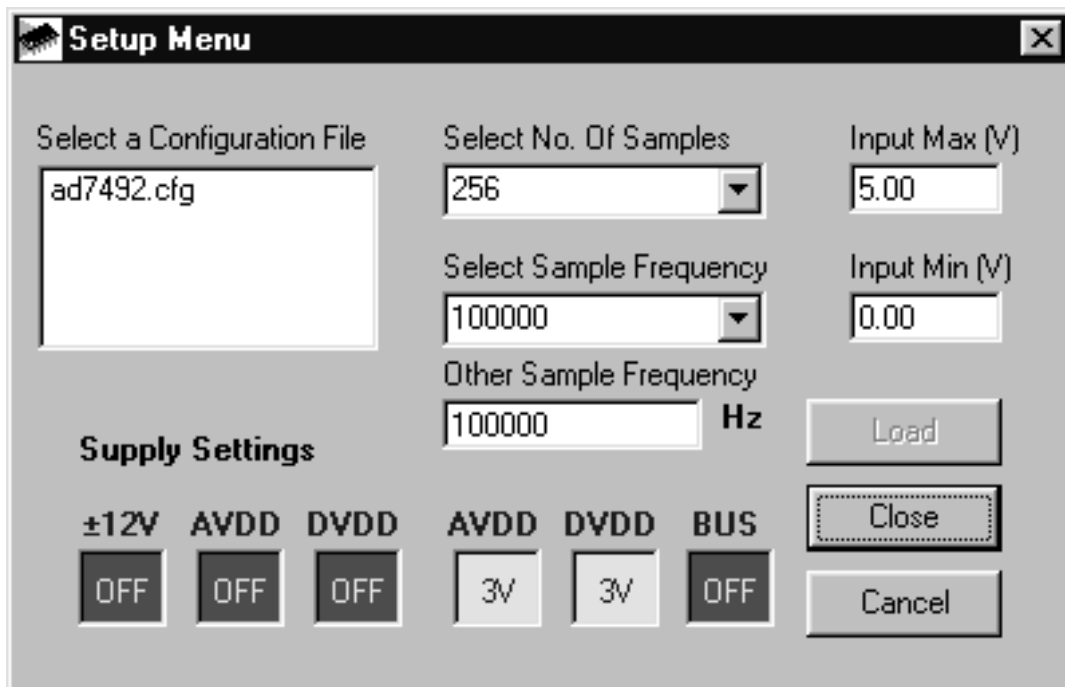

Figure 4. Setup Screen
The Setup Screen is responsible for allowing the user to load a configuration file for the evaluation board. The configuration file will give the software detailed information about the evaluation board and part connected to the Evaluation Board Controller such as number of bits, maximum sampling rate, power supply requirements etc. The configuration file also tells the software the name of the DSP program file which it should download to the Evaluation Board Controller. These files are supplied by Analog Devices with the evaluation board. Figure 4 shows the Setup Screen.
**Setup Menu:** Selecting this option displays the Setup Screen as shown in Figure 4.